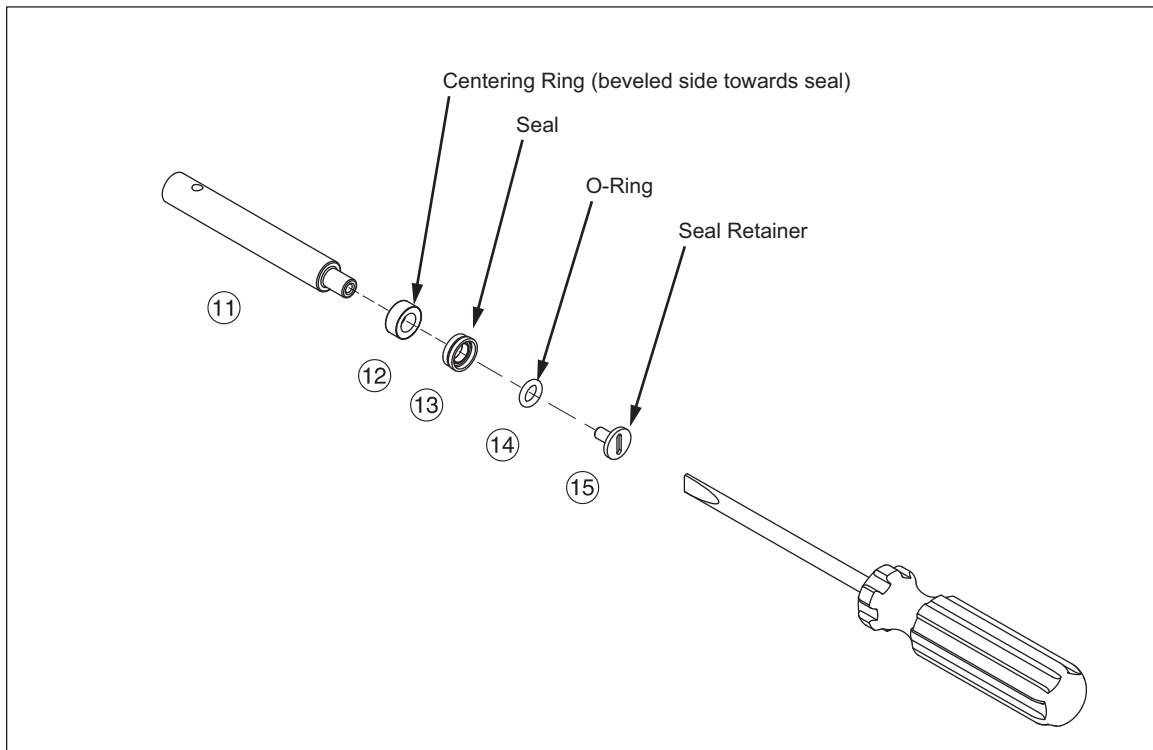

Figure 5-10. Seal Installation Tool
- c. Remove the seal retainer (15) from the end of the piston (11) with a small flathead screwdriver as shown in Figure 5-10.
- d. Remove the old o-ring (14), seal (13), and centering ring (12). Discard the seals to make sure they are not used again.
- e. Place the new o-ring (14), seal (13), and centering ring (12) on the piston (11) as shown in Figure 5-10. Add a small amount of Loctite 222 to the threads of the seal retainer (15). Fully tighten the seal retainer (15).
- b. Apply a small film of Krytox silicon lubricant to the o-ring (⑭), seal (⑬), and centering ring (⑫) As in Figure 5-10. Ensure that excessive Krytox silicon lubricant is not at the tip of the piston seals. Do not let Krytox work its way to the ICM inlet valve.